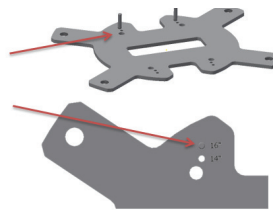

Figure 54
**5.0.11)** Assemble the cartridge alignment plate by threading in two of the 3/8" threaded alignment pins. When installing a 14" cartridge, the holes closer to the center of the plate should be used. When installing a 16" cartridge, the holes further from center should be used (see Figure 54).